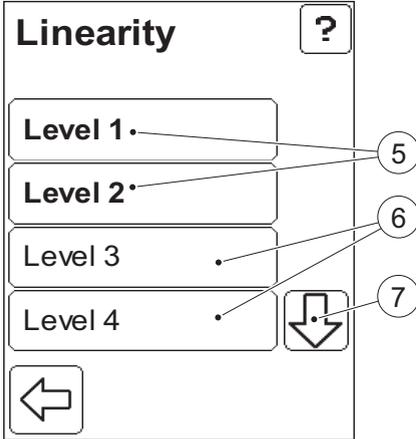
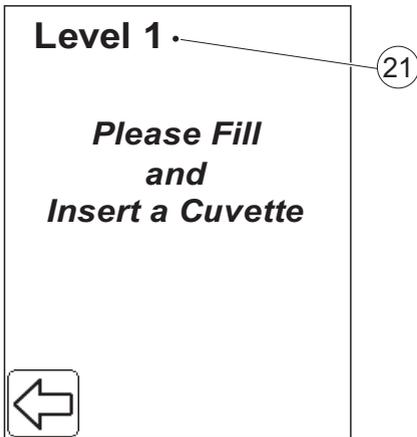

FIGURE 8-17
FIGURE 8-22
FIGURE 8-17 will be displayed
FIGURE 8-17 will be displayed.
- o) To confirm the displayed values and to save them for future comparisons to the measured value, press Save. *FIGURE 8-22* will be displayed. Otherwise press No. *FIGURE 8-17* will be displayed.
When Confirm is pressed all measurements for the designated level are rejected but still kept in memory, and FIGURE 8-17 is displayed.
To reject all measurements at the current level press Yes. *FIGURE 8-17* will be displayed.